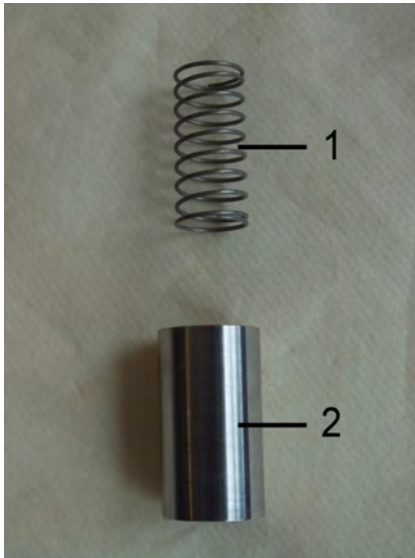

Fig. 48: Spring and float
- 12.** ▶ The inner parts of the flow monitor consist of the spring (Fig. 48/1) and float (Fig. 48/2).